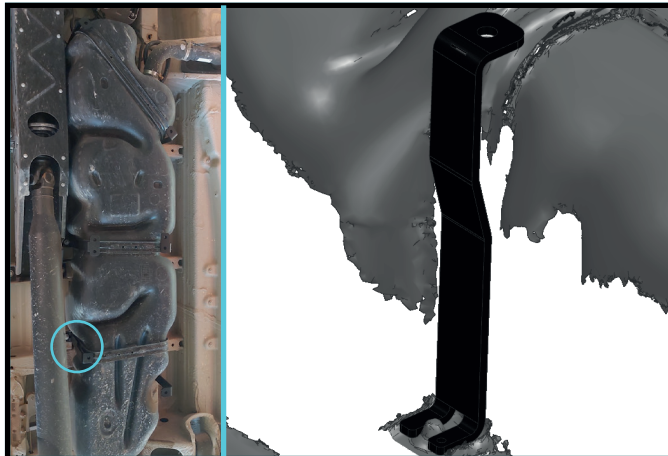

Fig. 3
3. Remove factory bolt. Fix the rear right bracket (item 7) using factory bolt as shown in fig.3.